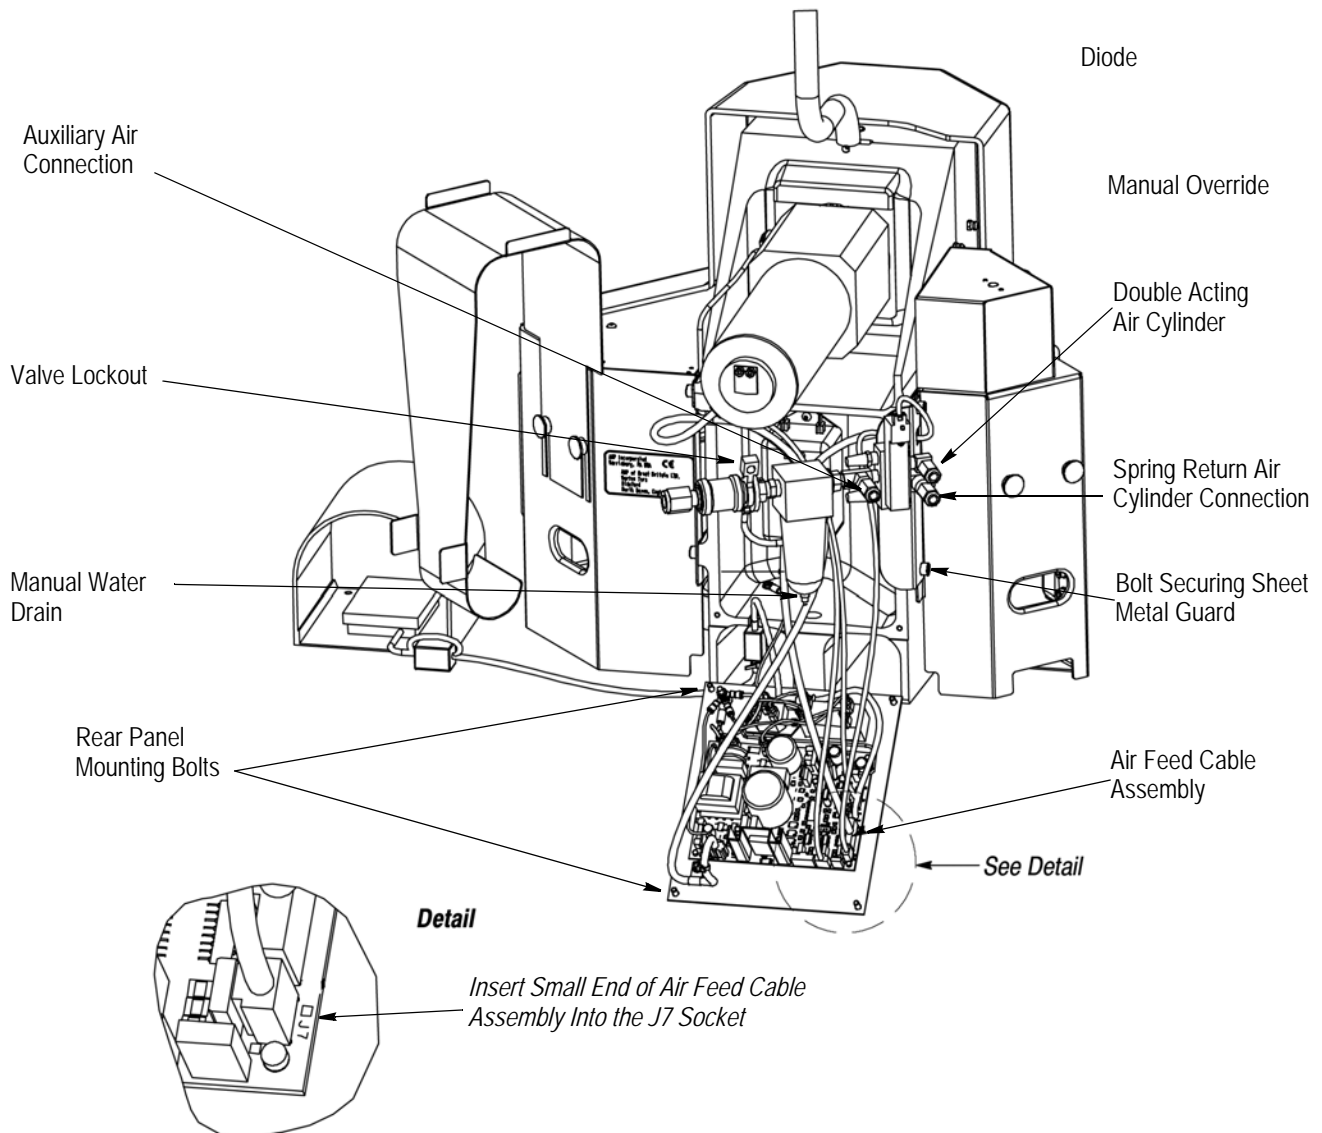
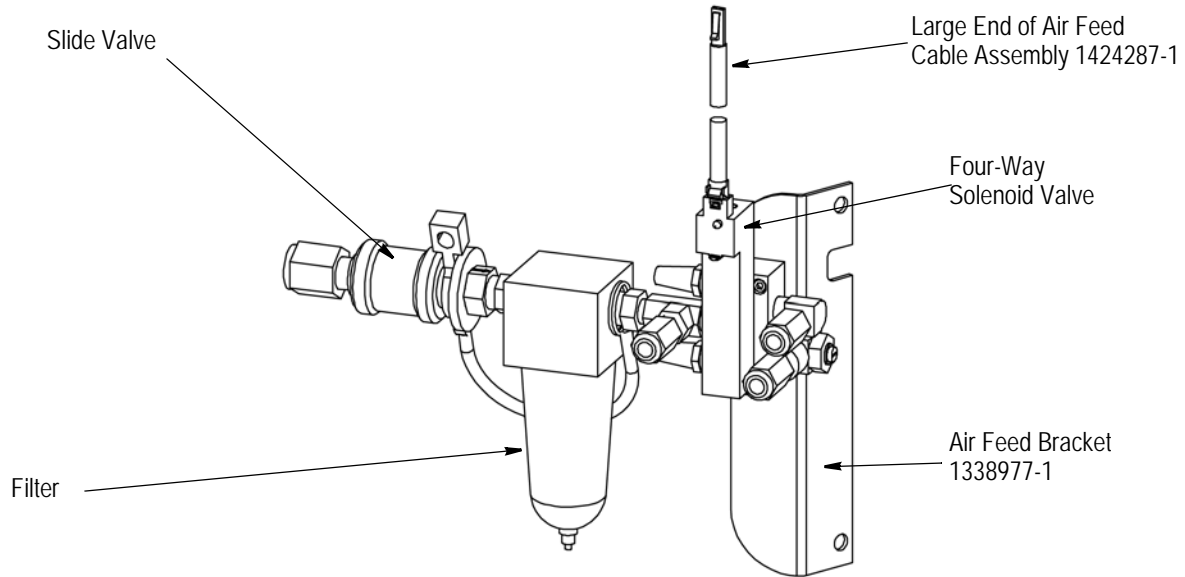

Figure 27
Figure 28
1. Remove the four bolts securing the rear controller panel to the frame. Refer to Figure 27.
3. Insert the small end of the air feed cable assembly (see Customer Drawing 1424266) into the J7 socket. See Detail in Figure 27.
4. Install the control panel into the machine with the air feed cable assembly through the upper right hand slot in the machine frame. See Figure 27.
5. Remove the two bolts securing the rear of the left sheet metal guard. See Figure 27.
6. Install Air Feed Bracket 1338977-1 to the frame (see Figure 28) using the two bolts securing the sheet metal guard (Figure 27).
9. Connect the air lines to the applicable ports, as shown in Figure 27.
10. Turn the air "on" by moving the slide valve (Figure 28) toward the filter.
11. Lock the air in the "off" position. Turn the air "off" and clamp the valve lockout in position as shown in Figure 27.